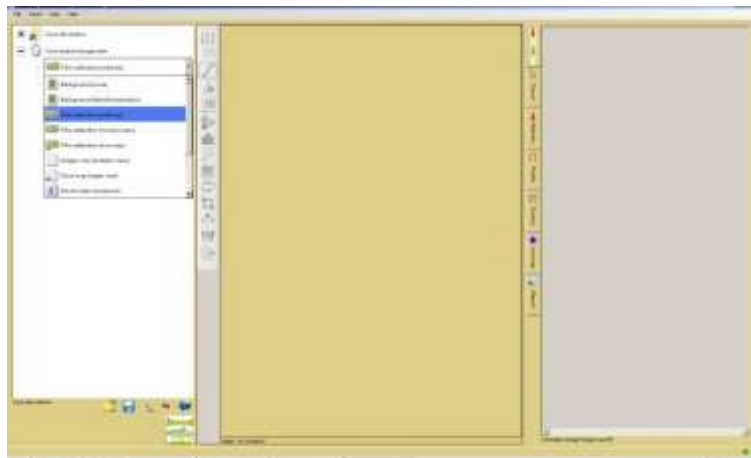

Figure 1
5. Turn on the scanner, connect a computer and open FilmQA Pro™. From the drop-down menu (Figure 1) under “Case Object Management” select “Film Calibration (ordinary)”. Note: The calibration will be valid for other films from the same production lot scanned on the same scanner.